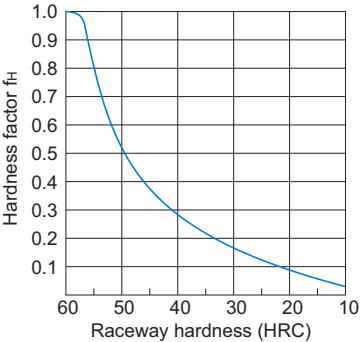

Fig.10 Hardness Factor (f_H)
- C : Basic dynamic load rating (N)
- P_C : Calculated load (N)
- f_H : Hardness factor (see Fig.10 on B1-75)
f_H : Hardness factor (see Fig.10 on B1-75)